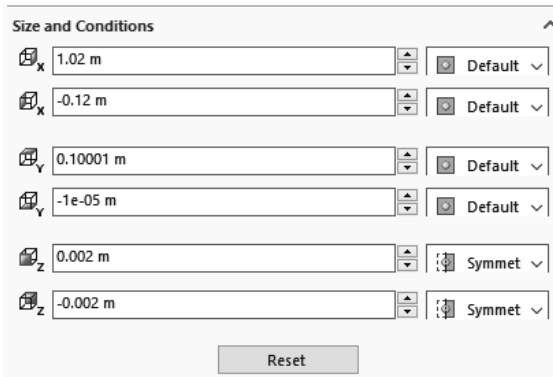
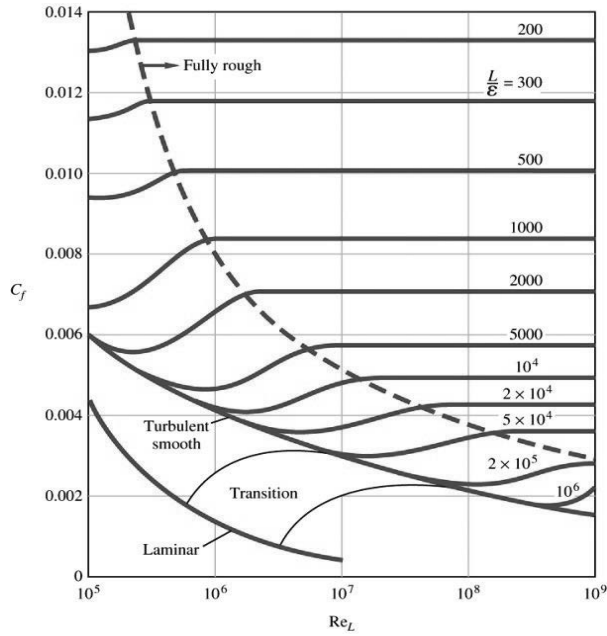

Figure 2.28a) Setting the size of the computational domain
Figure E3. Average friction coefficient for flow over smooth and rough flat plates, White (1999)
28. Select the tab **Flow Simulation**>>**Computational Domain...** Set the size of the computational domain to the values shown in figure 2.28a). Click on the **OK** button to exit. Select the tab **Flow Simulation**>>**Global Mesh...** from the SOLIDWORKS menu, select **Manual Type** and change the **Number of cells per X:** to **400** and the **Number of Cells per Y:** to **200**. Also, click on **Control Planes**. Change the **Ratio** for **X** to **-5** and the **Ratio** for **Y** to **-100**. Click on the green check mark above Ratio, see Figure 2.28b). This will increase the number of cells close to the wall where the velocity gradient is high. Select the tab **Flow Simulation**>>**Solve**>>**Calculation Control Options...** from the SOLIDWORKS menu. Change the **Maximum travels** value to **5** by first checking the box for **Travels** under the **Finishing** tab and changing to **Manual** from the drop-down menu. Set the value to 5. Travel is a unit characterizing the duration of the calculation. Click on the **OK** button to exit.
The average friction coefficient over the whole plate  $C_f$  is a function of the surface roughness for the turbulent boundary layer and also a function of the Reynolds number based on the length of the plate  $Re_L$ , see figure E3 in Exercise 8. This friction coefficient can be determined in Flow Simulation by using the final value of the global goal, the X-component of the Shear Force  $F_f$  and dividing it by the dynamic pressure times the area  $A$  in the X-Z plane of the computational domain related to the flat plate, see figure 2.28a) for the size of the computational domain.
2.8 Use different fluids, surface roughness, free stream velocities and length of the computational domain to compare the average friction coefficient over the entire flat plate with figure E3.